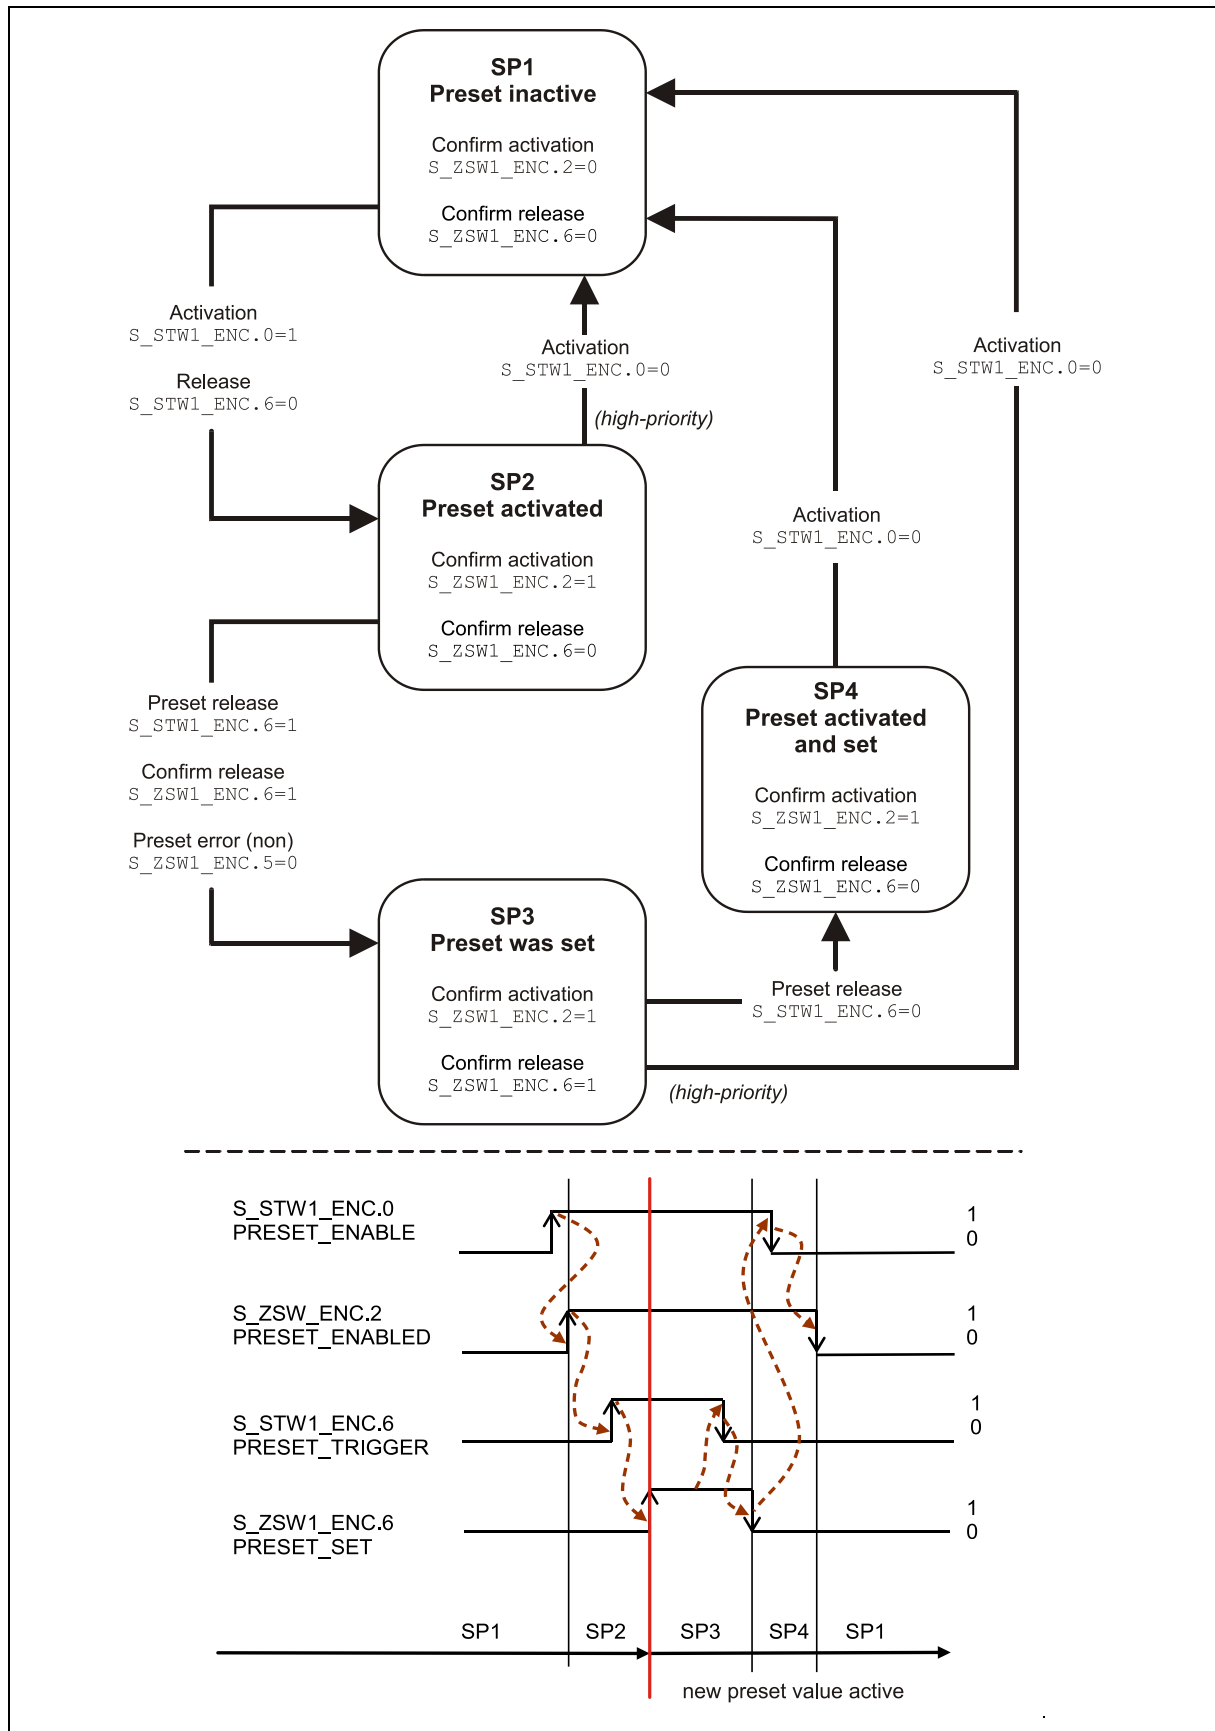

Figure 11: Preset finite state machine / control cycle
- Ensure that the parameter `Preset affects S_XIST32` is set to enable, and that the acknowledgment bits `22 Activation of preset function` and `26 Preset triggering` in the status word `S_ZSW1_ENC` are cleared (**SP1**, Figure 11).
- In the control word `S_STW1_ENC`, set bit `20 Activation of preset function` to 1. The activation is acknowledged in the status word `S_ZSW1_ENC` by setting bit `22` (**SP2**, Figure 11).
- The preset value is applied when the edge of bit `26 Preset triggering` rises in the control word `S_STW1_ENC`. The measuring system then checks whether all prerequisites for execution of the preset adjustment function are fulfilled. If yes, the preset value is written as a new actual position value and acknowledged in the status word `S_ZSW1_ENC` by setting bit `26 Acknowledgment, Preset triggering` (**SP3**, Figure 11). If no, execution is rejected and an error message is output via the status word `S_ZSW1_ENC` by setting bit `25 Preset error`.
- After editing the preset adjustment function, bit `26 Preset triggering` must be reset to 0 in the control word `S_STW1_ENC`. Bit `26 Acknowledgment, Preset triggering` is then automatically reset to 0 in the status word `S_ZSW1_ENC`, indicating that the preset execution has been completed (**SP4**, Figure 11).
- To execute a new preset control cycle, bit `20 Activation of preset function` must be reset to 0 in the control word `S_STW1_ENC`. Bit `22 Acknowledgment, Activation of preset function` is then automatically reset to 0 in the status word `S_ZSW1_ENC` (**SP1**, Figure 11).